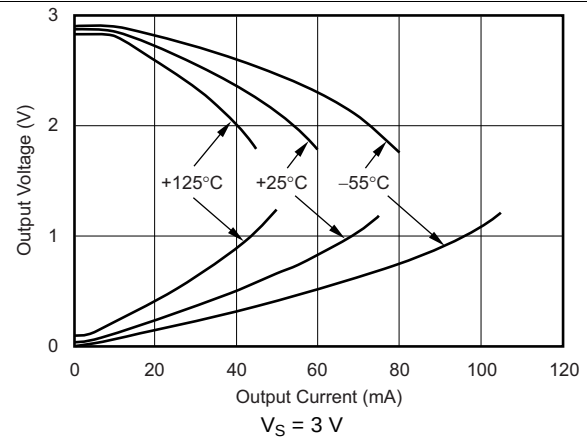
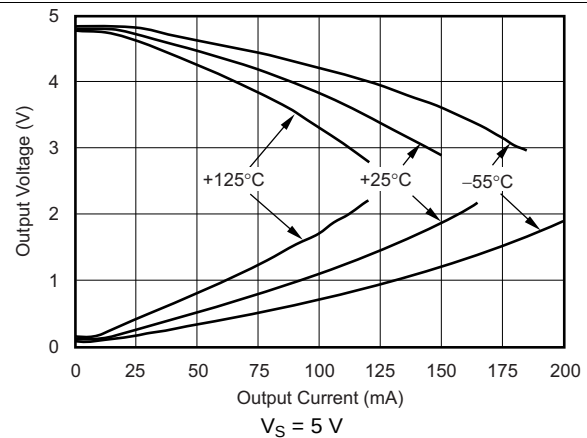
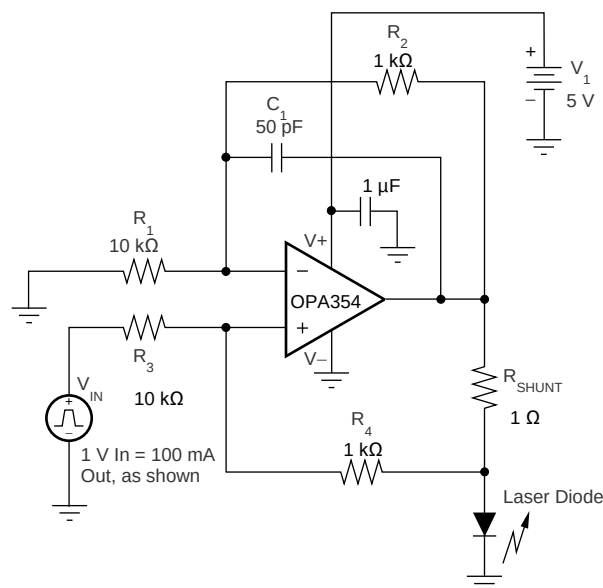
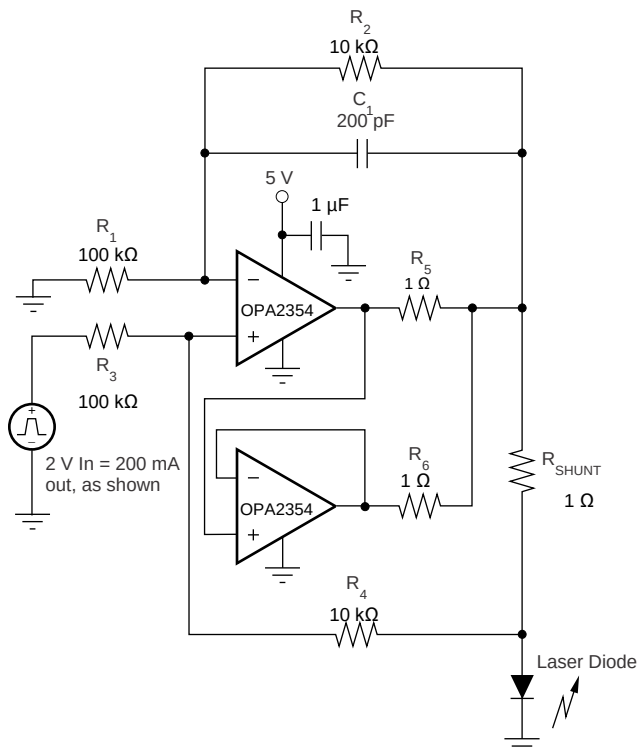

图 20. Output Voltage Swing vs Output Current
图 22. Output Voltage Swing vs Output Current
Figure 30. Laser Diode Driver
FIG 31. Parallel Operation
(1) See typical characteristic curves, *Output Voltage Swing vs Output Current* (Fig. 20 and Fig. 22).
(2) Specified by design.
A class AB output stage with common-source transistors achieves rail-to-rail output. For high-impedance loads ( $> 200 \Omega$ ), the output voltage swing is typically 100 mV from the supply rails. With 10- $\Omega$  loads, a useful output swing is achieved while maintaining high open-loop gain. See the typical characteristic curves, *Output Voltage Swing vs Output Current* (Figure 20 and Figure 22).
The OPAx354 output stage supplies a continuous output current of  $\pm 100$  mA and yet provide approximately 2.7 V of output swing on a 5-V supply, as shown in Figure 30. For maximum reliability, TI does not recommend running a continuous DC current in excess of  $\pm 100$  mA. See the typical characteristic curves, *Output Voltage Swing vs Output Current* (Figure 20 and Figure 22). For supplying continuous output currents greater than  $\pm 100$  mA, the OPAx354 may be operated in parallel, as shown in Figure 31.